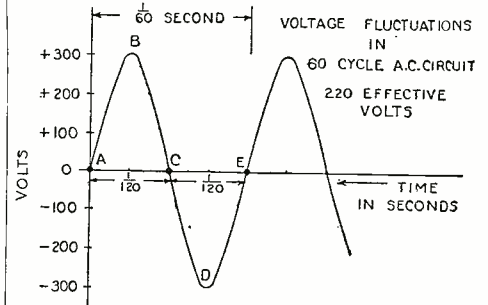
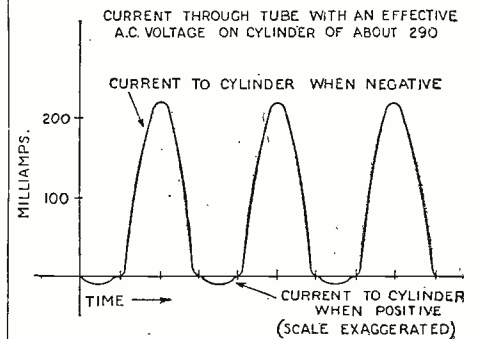

FIG. 4
FIG. 5
Consideration of these figures shows at once that this device will rectify alternating current. When the tube is connected to the terminals of an alternating current supply, the cylinder will become alternately positive and negative with reference to the central electrode. If the supply is a 220-volt 60-cycle circuit, the cylinder will rise from zero to 312 volts positive, fall to zero and then rise to 312 volts negative and return to zero sixty times in each second. The "effective" voltage as indicated by an ordinary A.C. voltmeter will be 220 volts. The peak voltages reached on the positive and negative surges will be about 312 volts, but the instruments do not read "peak volts." The instrument voltage is called "effective" because an A.C. voltage so specified (220, in this case) will produce the same heating effect in a straight conductor as a D.C. voltage of the same value (220) applied to the same conductor. The voltage fluctuation in a 60-cycle A.C. circuit of 220 effective volts is shown in Fig. 4.
Comparison of Fig. 4 with Figs. 2 and 3 shows that while the cylinder is on the positive half-cycle (from A to B to C), a relatively small current will flow through the tube, from 0 to 2 milliamperes as stated above, but when the cylinder is on the negative half-cycle (from C to D to E), a large current of one to two-tenths of an ampere will flow. The current passing through the tube during a number of successive cycles is shown to scale in Fig. 5, the currents to the cylinder while positive being exaggerated to render them visible. The current curves will have the exact shape shown in the figure only when some fairly heavy inductance or choke coil is in series with the lamp, but in "B" battery eliminators such coils are always present in the input transformer. Sixty of the current impulses, as shown, pass through the tube in each second, so that a pulsating, unidirectional current passes through any simple circuit connected to the tube. These humps can be smoothed out by introducing the set of capacities and inductances which form the second part of eliminators.
Fig. 5 shows the variation of the current flowing between the rod and plate of the tube.